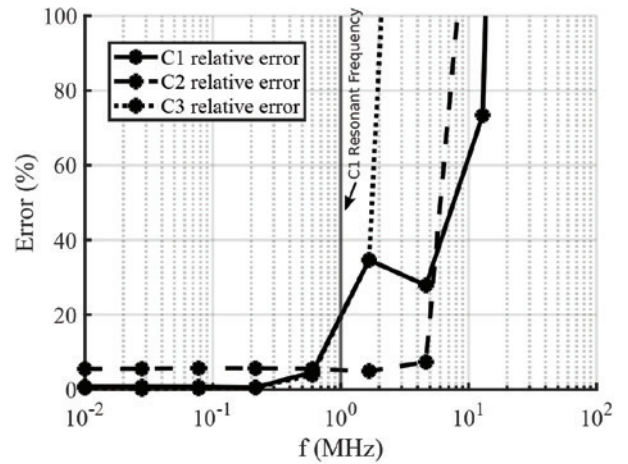

Figure 3: Comparison of mean relative error of the real part of the extracted CMP for the three cores
Figure 3 represents the mean relative error of the real part of the CMP values extracted from the three core measurements. The relative error is calculated with respect to the mean of the measurements using eq. (5). The mean value does not reflect the intrinsic permeability, but it is used as a comparative metric. Therefore, the error in Figure 3 must not be interpreted as the true error. Nonetheless, it does offer an idea of the measurements' dispersion. Only a few representative frequency points of the CMP behavior have been plotted. Figure 3 shows how the relative